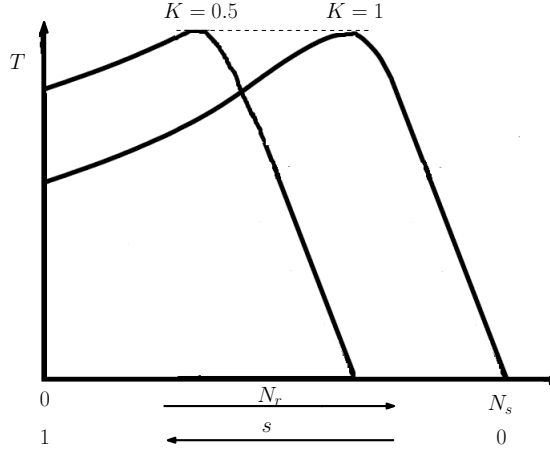

Figure 3:  $T$ - $N_r$  characteristics of a three phase induction motor with V/f control
So with V/f control, the maximum torque developed is independent of  $K$ , but  $s_m$  is inversely proportional to  $K$ . From (9), for any given torque,  $T$ , the drop in motor speed from no load speed, ( $sK$ ) will be same for any value of  $K$ . Thus, with V/f control, the  $T$ - $N_r$  characteristics for different values of  $K$  will be parallel to each other as shown in Fig.3.